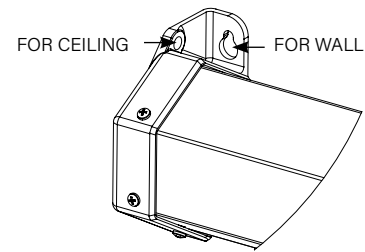

FIGURE 1
2. Insert fasteners through proper openings provided in back side of end caps. See figure 1.